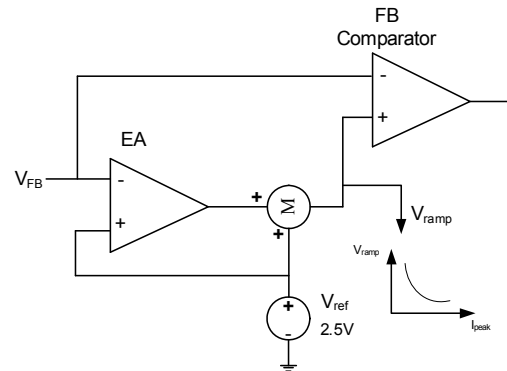

Figure 5: EA and Ramp Compensation
To improve load regulation, the MP155 implements an error amplifier (EA) compensation function (Figure 5). The MP155 samples the feedback voltage 6 μs after the MOSFET turns off. EA compensation regulates the 2.5V reference voltage with the load, thus improving the power module regulation.
An internal ramp compensation circuit precisely maintains the output voltage. An additional exponential voltage sinking source pulls down the feedback comparator's reference voltage as shown in Figure 5. The ramp compensation is relative to the load conditions: Under full-load conditions, the compensation is ~1mV/ μs ; with a decreasing load, the compensation increases exponentially.